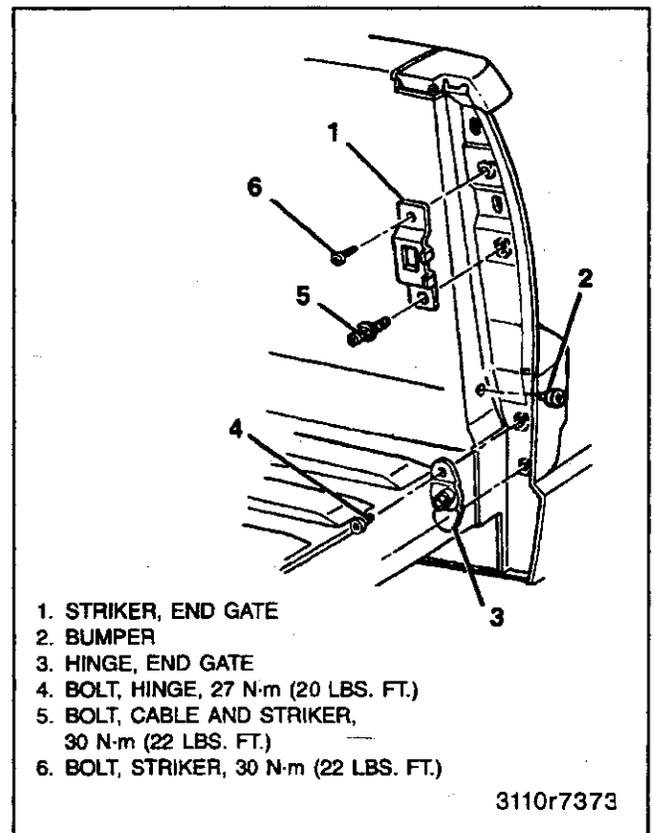

Figure 2—Side Panel Striker and Hinge Components
1. Cable on each side from the side panel striker bolts (figure 2).
1. End gate to side panel hinge assemblies holding the gate at a 45-degree angle (figure 2).
2. Cable on each side onto the side panel striker bolts (figure 2).
⇄ Remove or Disconnect (Figure 2)
⇄ Install or Connect (Figure 2)
Remove or Disconnect (Figure 2)
Install or Connect (Figure 2)